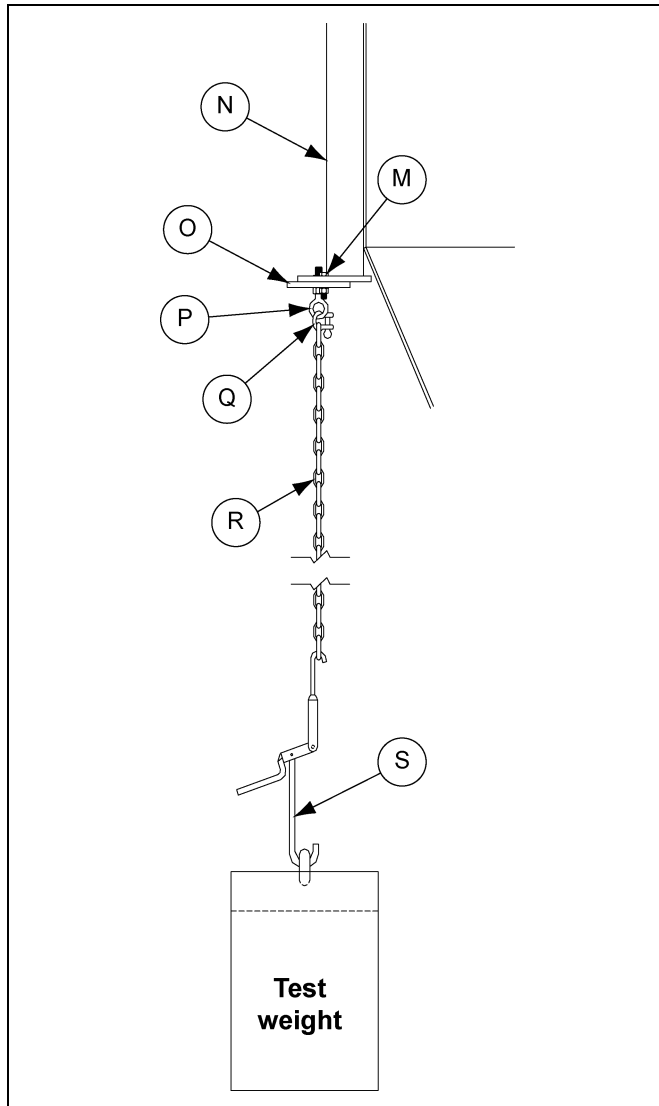

Figure 2T Test Weight Lift Assembly
7. Hook-up the test weight chains and the test weight lifters according to the test weight lift assembly drawing as shown in *Figure 2T*.